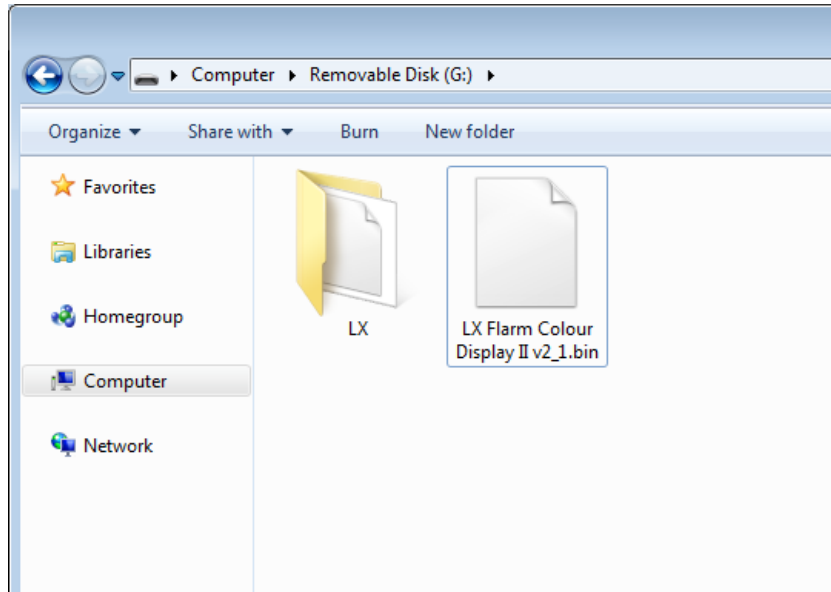

Figure 1.
- 1.) Save update file to **root** of SD card (figure 1.)